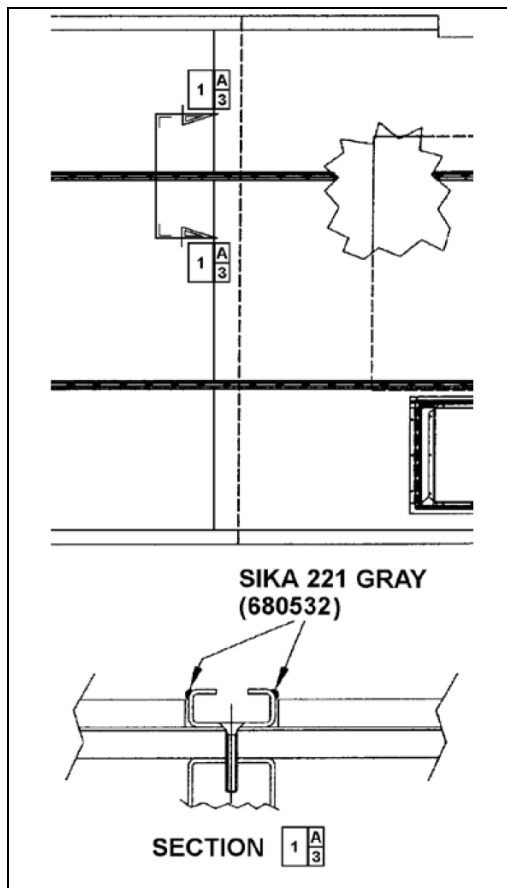

FIGURE 48: APPLICATION OF SIKA 221 GRAY 18641
8. Apply Sikaflex 221 gray sealant (680532) alongside passenger seat fixing tracks (refer to figure 48).